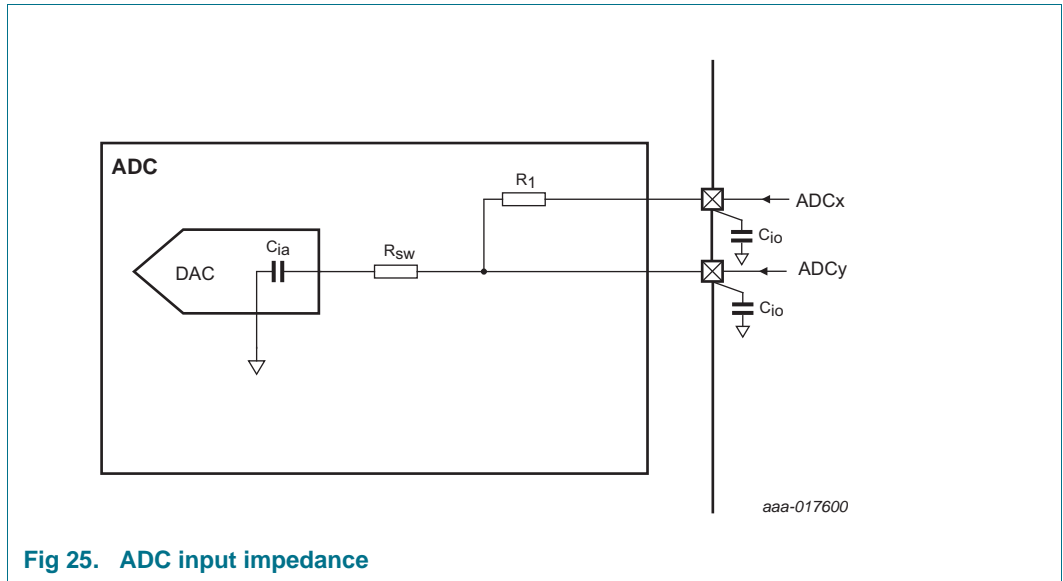

Fig 25. ADC input impedance
- [10] Input impedance Z_i is inversely proportional to the sampling frequency and the total input capacity including C_{ia} and C_{i0} : $Z_i \propto 1 / (f_s \times C_i)$. See Table 15 for C_{i0} . See Figure 25.
- (1) Example of an actual transfer curve.
- (2) The ideal transfer curve.
- (3) Differential linearity error (E_D).
- (4) Integral non-linearity ($E_{L(adj)}$).
- (5) Center of a step of the actual transfer curve.
Figure 25 shows the ADC input impedance. In this figure: